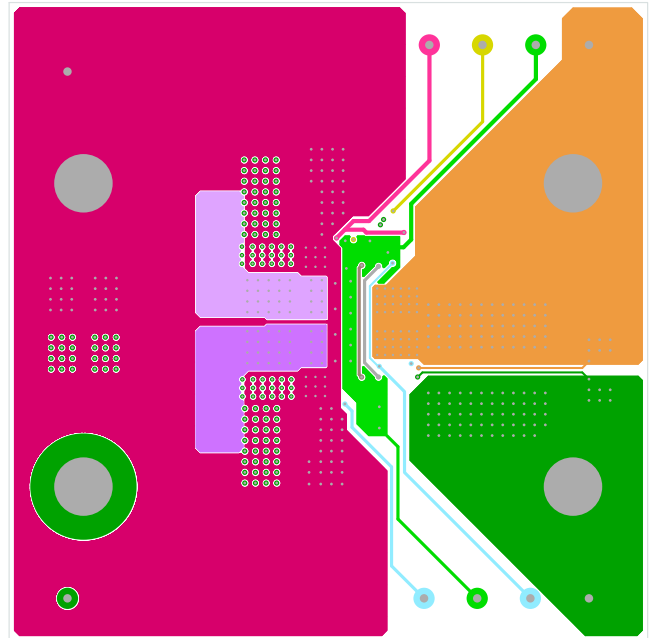

FIGURE 6. LAYER 3
2. Phase 1 and Phase 2 pads are switching nodes that generate switching noise. Keep these pads under the module. For noise-sensitive applications, it is recommended to keep phase pads only on the top and inner layers of the PCB; do not place phase pads exposed to the outside on the bottom layer of the PCB. To improve the thermal performance, the phase pads can be extended in the inner layer, as shown in Phase 1 and Phase 2 pads on layer 3 (see Figure 6) for this 30A evaluation board. Make sure that layer 2 and layer 4 have the GND layers to cover the extended areas of phase pads at layer 3 to avoid noise coupling.